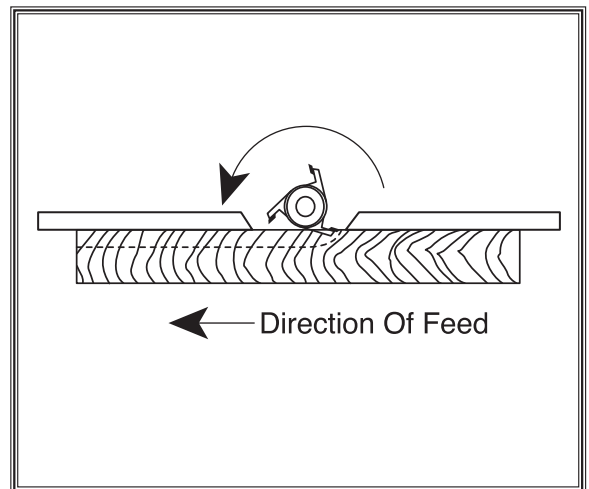

Figure 31. Fence setup for partial-edge removal (Guard Removed For Clarity).
4. Adjust the outfeed fence so that it comes into alignment with the infeed fence as shown in **Figure 31**.
Also, examine the grain on the side edge of the board. Whenever possible, run the board so the shaper cutters are cutting with the grain as shown in **Figure 31**. This will minimize the chance of tear out.